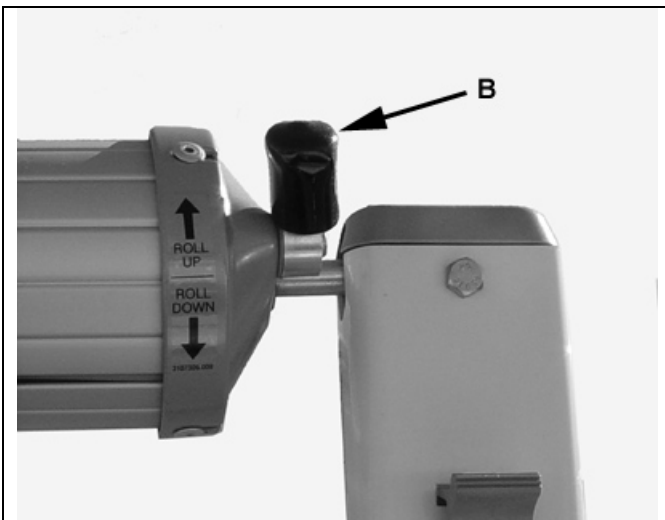

Figure 10-11 – Retract Awning
- Push the lock arm (B) up to the “roll up” position.
- Insert pull rod into loop in strap and GENTLY allow the awning to roll to the trailer. See figure 10-11.